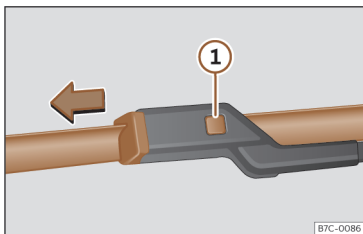

Fig. 205 Changing the windscreen wiper blades
- Press and hold release button >>> **Fig. 205** ① and pull gently on the wiper blade in the direction of the arrow.